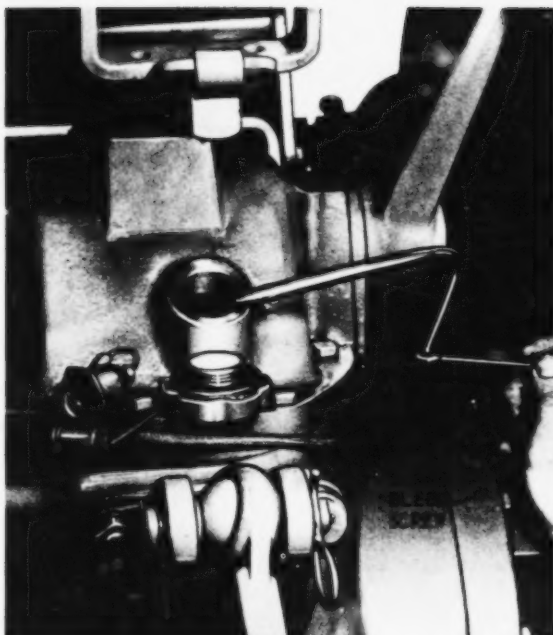

Fig. 22—Bleeding Hydraulic Brakes
3. Attach a transparent plastic tube to the bleed valve as shown in Fig. 22.